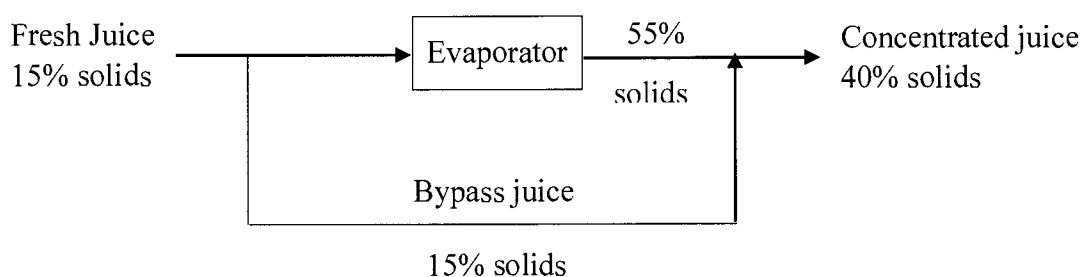

Figure 1: Block diagram for concentration of juice.
**Q.4** Fresh juice contains 15% solids and 85% water by weight and is to be concentrated to contain 40% solids by weight. In single evaporation system, it is found that volatile constituents of juice escape with water leaving the concentrated juice with a flat taste. In order to overcome this problem, part of the fresh juice bypasses the evaporator. The operation is shown schematically in figure 1 given below. Calculate : [10]